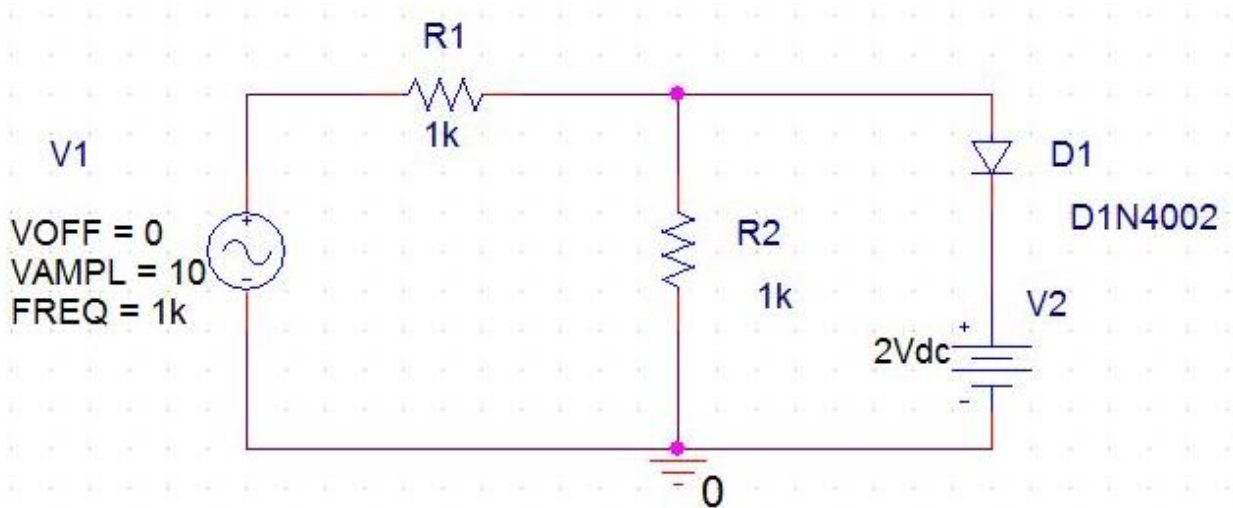

Figure 2A_1 – Limiter Circuit
(Figure 2A_1)
- Use the following simulation settings as shown in figure 2A_2 to simulate your circuit.
(Figure 2A_2)
(Figure 2A_3)
- Draw the circuit as shown in figure 2A_1.
- d. Simulate the circuit at different values of V2 (DC Source given in figure 2A_1). Observe the difference in waveforms.
- e. For the circuit given in Figure 2A_1, draw the transfer characteristic curve with V_{out} on y-axis and V_{in} on x-axis. This can be done by using DC Sweep simulation profile. It is left for the students to make the simulation profile settings themselves and observe the results.
7. In this part of the exercise, you must simulate the circuit provided in figure 2A_1 but it should clip positive peak at +1.5V and negative peak at -0.2v. The procedure for doing the exercise is the same as described in part A of exercise
11. The following procedure should be adopted while practical implementation of the circuit given in figure 2A_1: